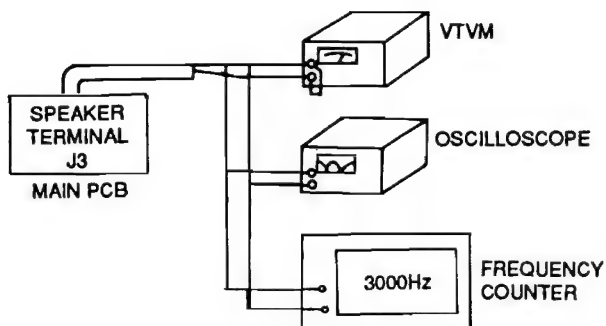

Fig. 7 AZIMUTH. SPEED
- 2) Connect VTVM and oscilloscope to speaker terminal (J3) of main PCB (Fig. 7).
- 1) Connect frequency counter and oscilloscope to speaker terminal (J3) as shown Fig.7 so that the wave form and frequency can be observed.